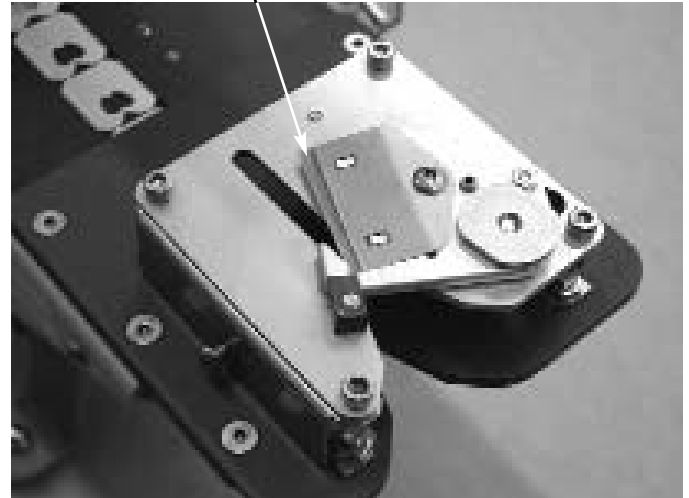

Figure A.6
2. Use the end of a pencil to push the front of the carriage backward away from the front of the closer and lift the trimmer cover off. This exposes the trimmer shear blade (Figure A.6).